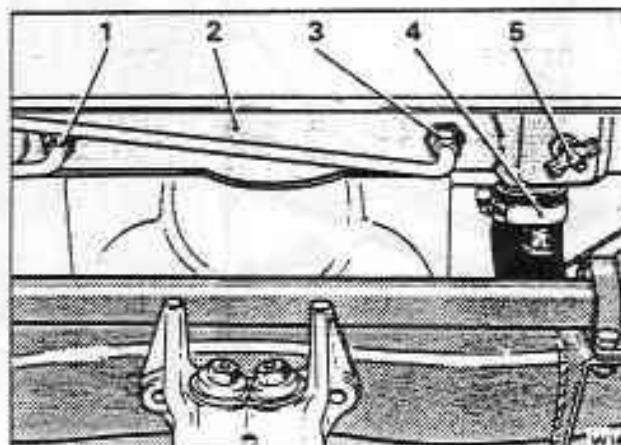

Fig. L2-1 Bottom of radiator assembly
7. Unscrew the two pipe union connections situated on the bottom of the radiator (see fig. L2-1). One pipe